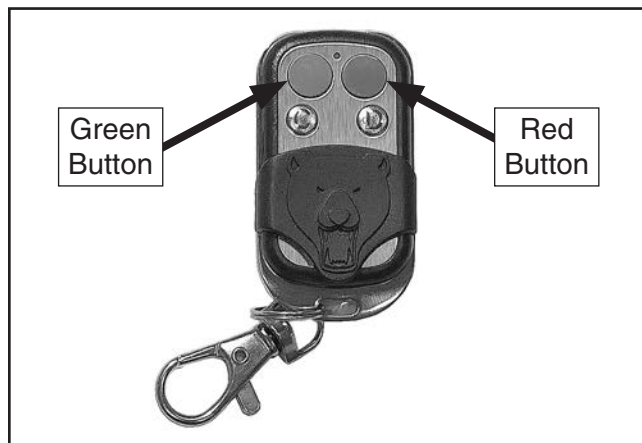

Figure 4. Remote control.
2. Press green button on remote control to turn dust collector **ON** (see **Figure 4**).
3. Press red button on remote control to turn dust collector **OFF** (see **Figure 4**).
2. Immediately press green button on remote control (see **Figure 4** on **Page 2**) and release it. You will hear two beeps. After three to five seconds, you will hear three more beeps. Remote control is now programmed.